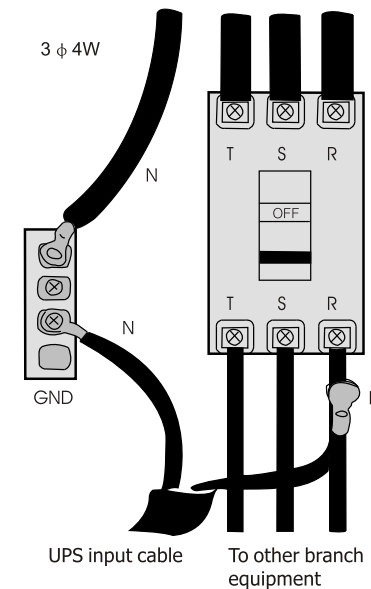

Figure 13
14. Avoid using the same switch with other equipment when connect to switchboard, try to connect cable to utility terminal. Figure 13.